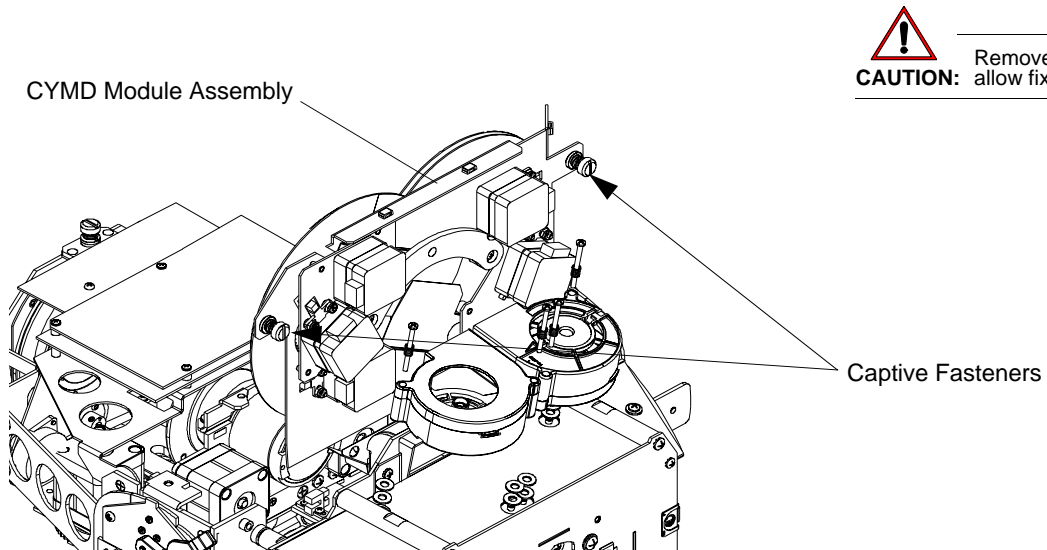

Figure 2-7: CYMD Module Assembly Removal
- Step 5. As illustrated in Figure 2-7, loosen two captive fasteners and carefully pull assembly from luminaire.